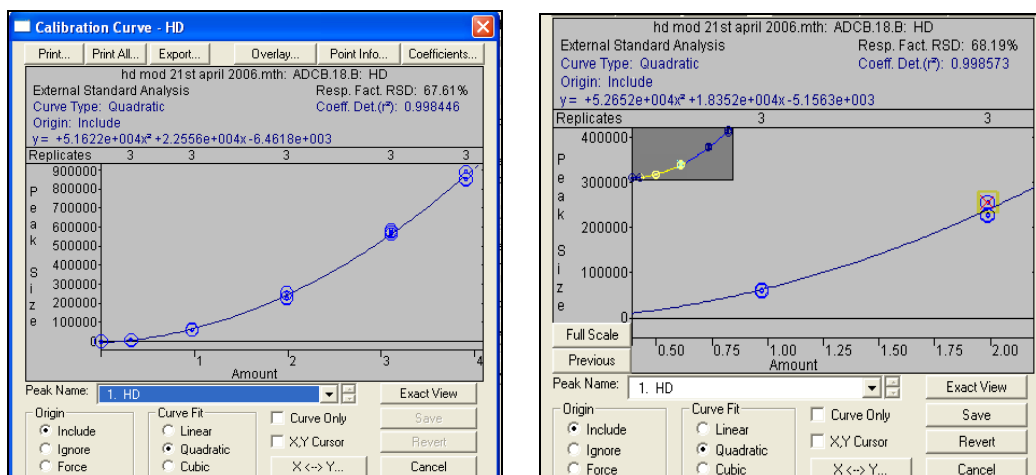

Figure 6: Calibration Curve (left) with Expanded Region (right)
- 5) Click on 'View Curves'. The regression value can be seen in the right-hand-side top corner of the window (see left-hand side of figure 6)¹⁰.
- 6) The mouse can be used to expand certain regions. To revert to zoomed out curve, double click on 'Small chromatogram' (top left of enlarge region, right-hand side of figure 6).